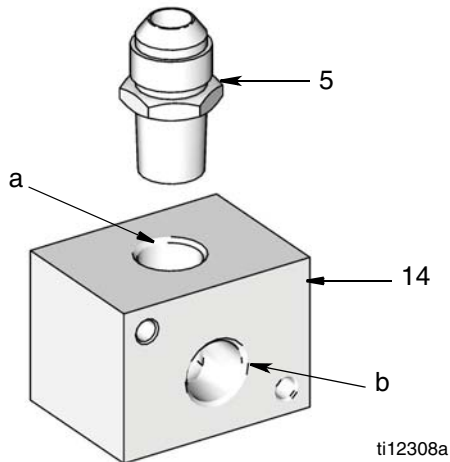

FIG. 11
1. Install adapter fitting (5) in opening (a) of manifold (14). Tighten securely. Refer to FIG. 11 to determine correct installation position.